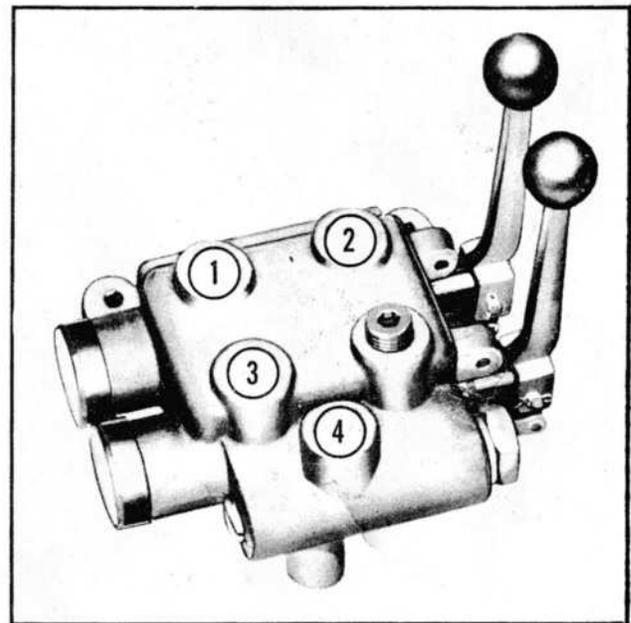

Figure 17
1. Install one $\frac{1}{2}$ " x 16" hose in port (4), Figure 17, and to the pump to valve line.
2. To obtain valve action to raise lift arms when left hand lever is pulled back, install one $\frac{1}{2}$ " x 25" hose in port (3), Figure 17, and to the hydraulic line leading to the barrel end of the lift cylinder.
3. To dump the bucket when the right hand lever is pushed forward install one $\frac{1}{2}$ " x 25" hose in port (2), Figure 17, and to the hydraulic line leading to the barrel end of the bucket cylinder. Install a $\frac{1}{2}$ " x 25" hose in port (1), to the hydraulic line leading to the cap end of the bucket cylinder.